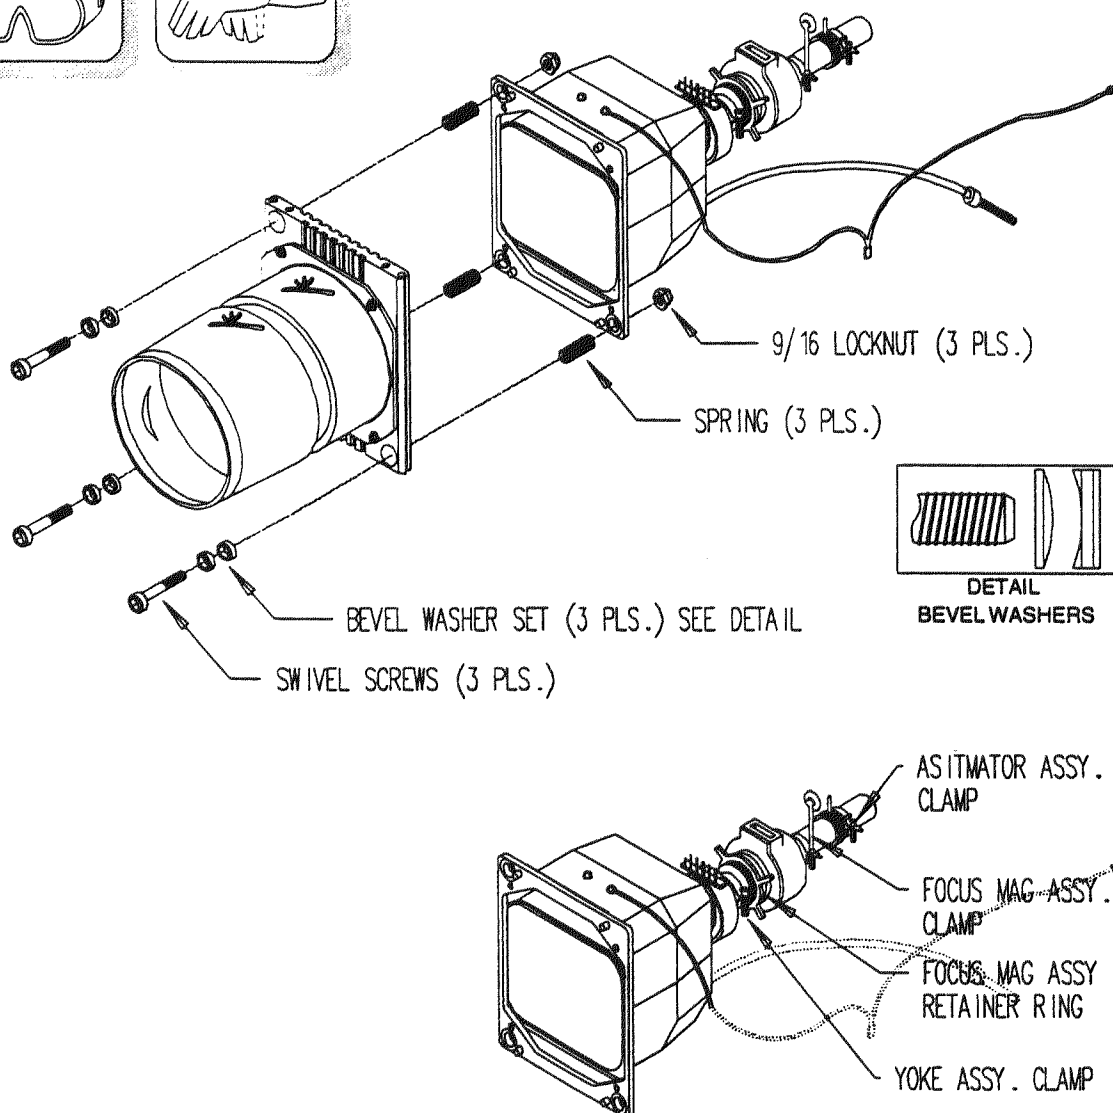

FIGURE 10-31. AMPRO 3300 CRT replacement procedure.
- **STEP 7. REMOVE LENS ASSEMBLY:** Using a 3/16 lens adjustment tool and a 9/16 wrench, remove the three (3) swivel screws, three (3) bevel washer sets, three (3) springs and the three (3) 9/16 self-locking nuts. See Figure 10-31.
- **STEP 8. CRT NECK COMPONENTS:** Loosen the Yoke/Convergence assembly clamp, Focus magnet assembly clamp and retainer ring and the Astigmator assembly clamp. Slide each component off the neck of the CRT. See Figure 10-31.